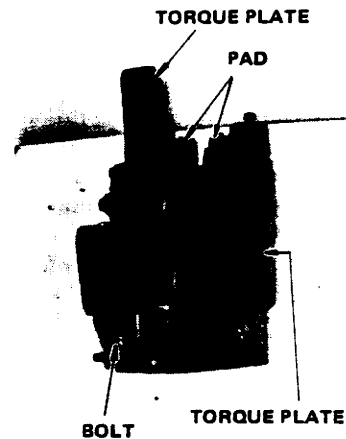

Fig. 3-20
- (8) Fig. 3-20 shows the completed assembly. Place caps on each port so that no foreign material can enter.